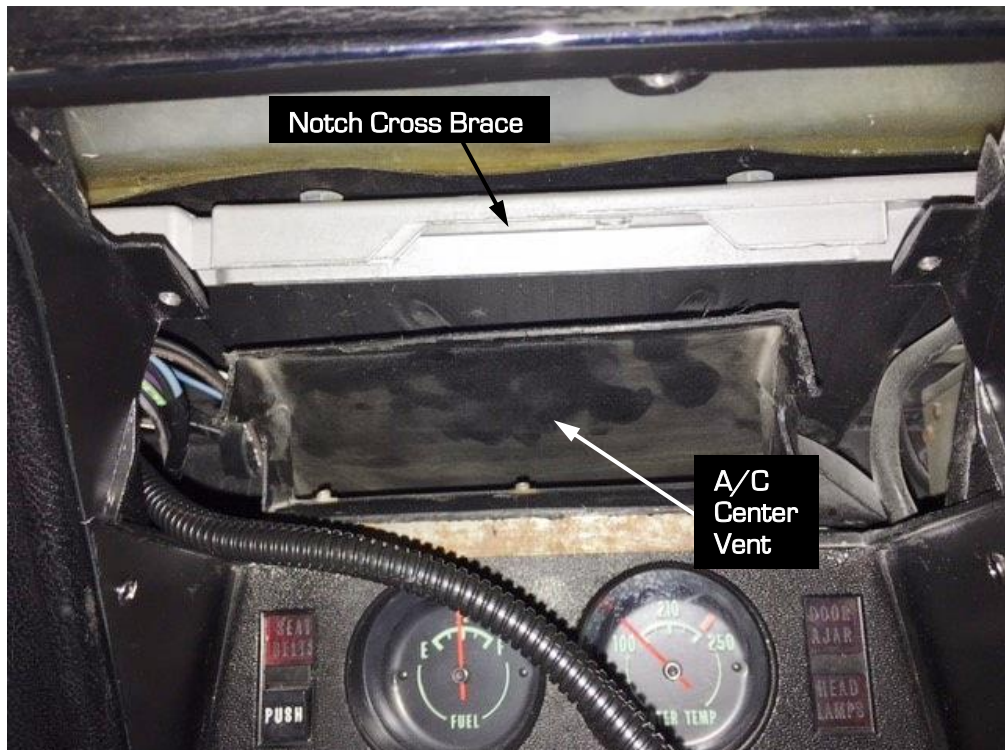

Figure 9 – 1968-69 C3 Cross Brace
17. Re-install the center dash bezel back into the dash. Route the wiper switch harness to the left hand side of the vehicle. **NOTE:** For the 1968-69 vehicles that were equipped with an under dash cross brace, you will need to notch the back edge of the brace to allow for clearance at the back of the wiper switch. For factory A/C vehicles, you may also need to clearance the center vent duct (Figure 9).